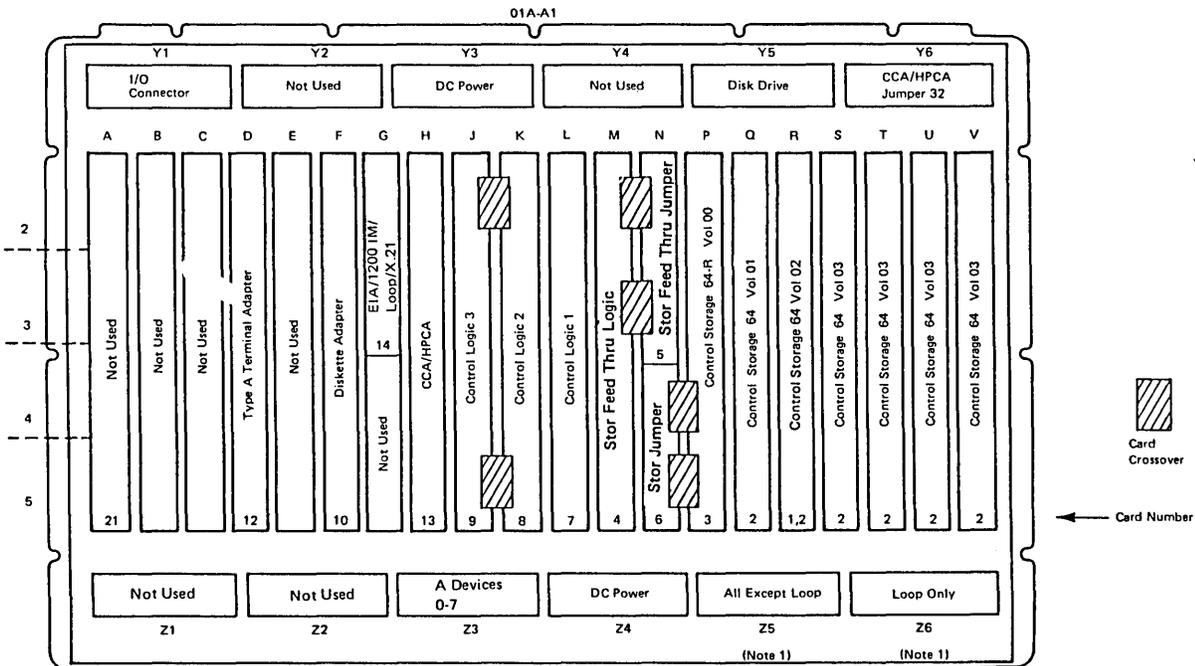

Figure 1-4. 01A-A1 Board – Model 52C (Kanji/Chinese) – PN 5643330
- Figure 1-4 Model 52C (Kanji/Chinese) with storage greater than 64K. The 52C is a Kanji (Japanese/Chinese) model control unit.